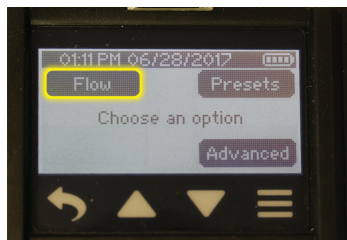

Figure 3. Single-tube Flow Verification Train Overview
1. Break tips off a representative sorbent tube and insert (arrow printed on tube pointing toward the pump) into the rubber sleeve of a 222 Series (non-adjustable) Low Flow Tube Holder (Figure 3).
2. Connect tubing from the 222 Series (non-adjustable) low flow tube holder to the pump inlet (Figure 3).
3. Use a length of flexible tubing to connect the exposed open end of the representative sorbent tube in the holder to a flowmeter outlet (Figure 3).
Build a flow rate verification train with sample media in line (Figure 3).